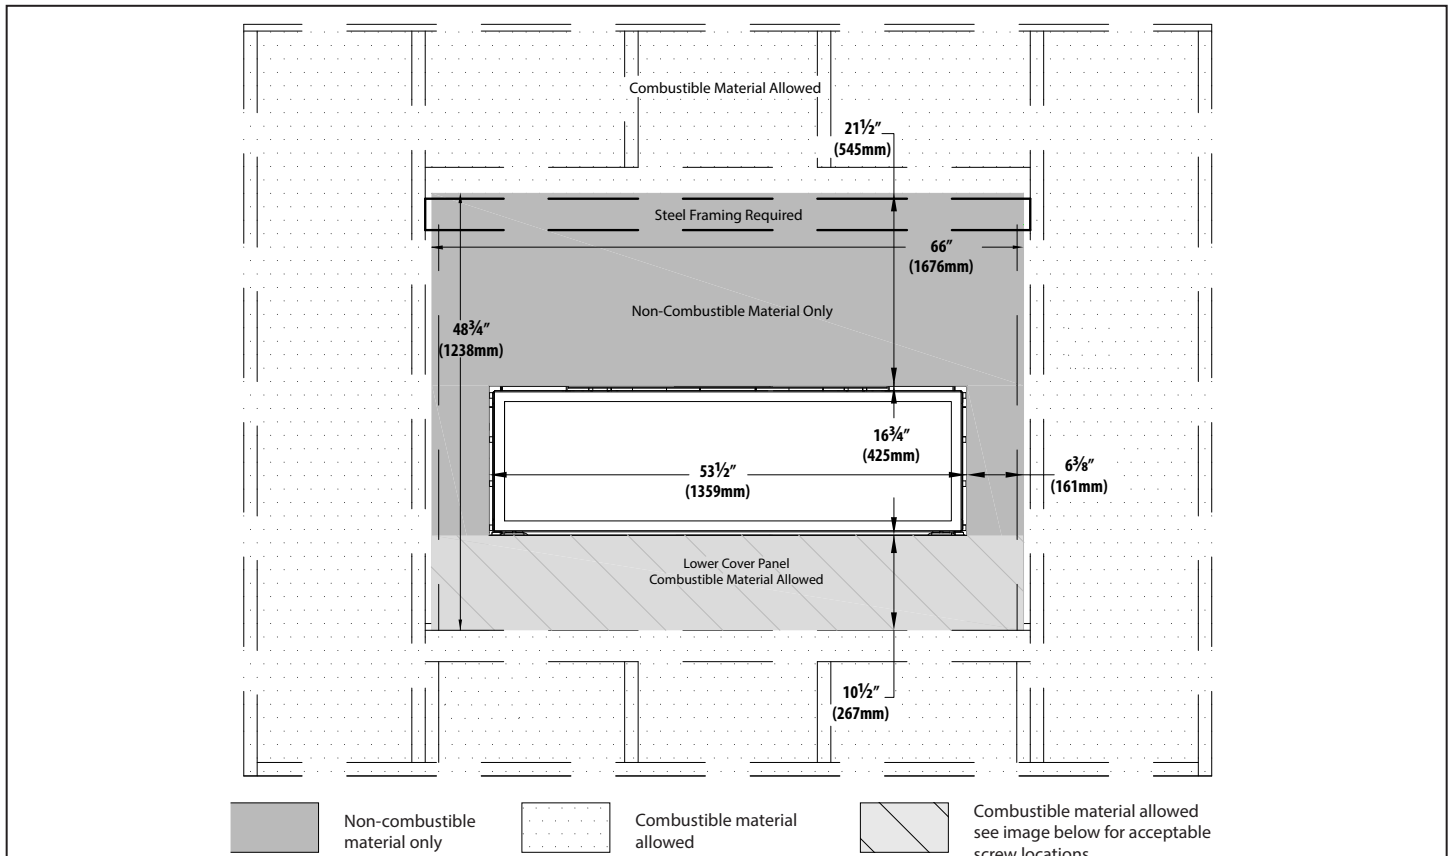
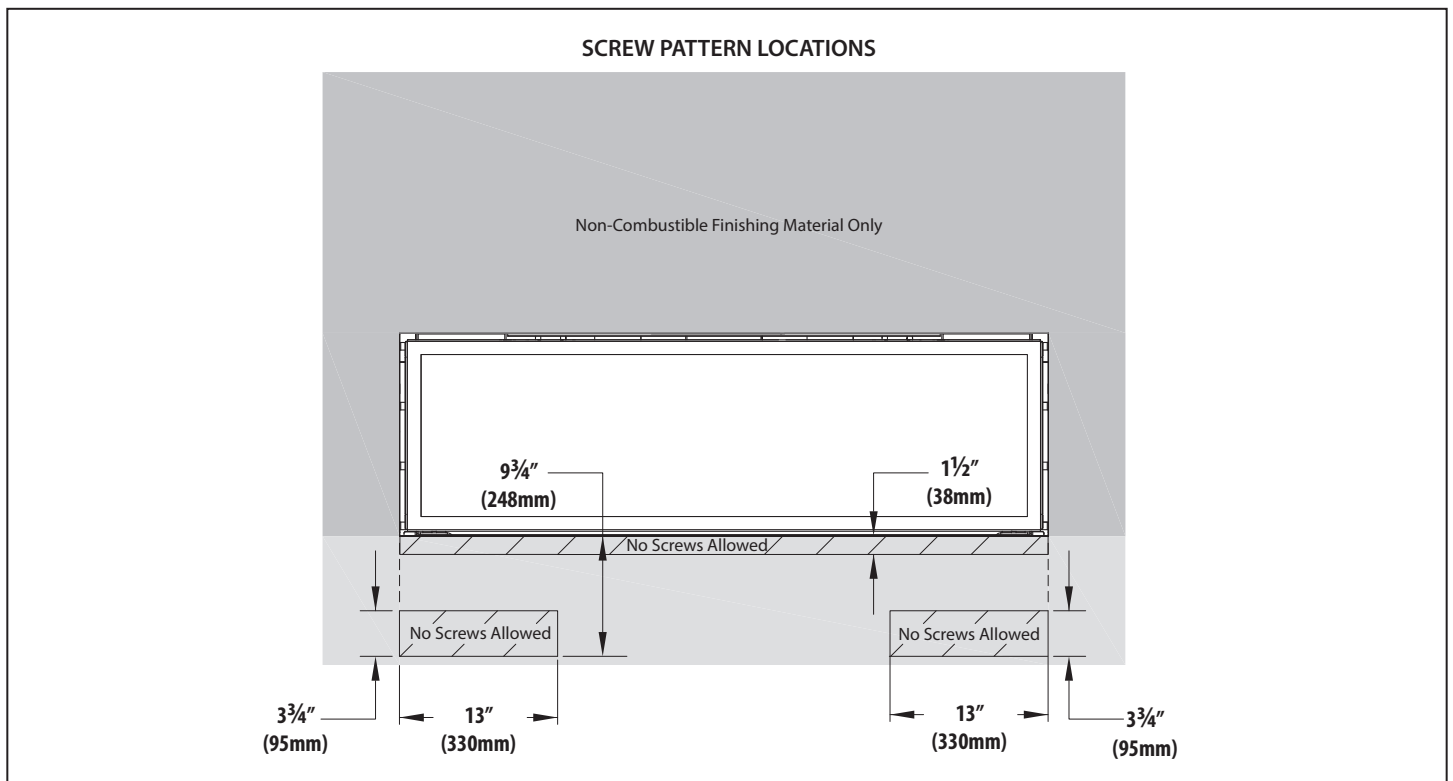

FIGURE 4.3 Minimum Non-Combustible Finishing Dimensions for all installations
FIGURE 4.4 Minimum Non-Combustible Finishing Dimensions Screw Locations for all installations
- Non-combustible material is required at the top and sides of the fireplace. This fireplace is designed to accommodate non-combustible facing material up to 3/4" (19mm) thick. See FIGURE 4.3 and FIGURE 4.4 on page 34 for facing and finishing material dimensions.
- It is acceptable to pre-drill holes and to use self-tapping screws prior to attach the non-combustible material to the top and sides of the fireplace face. Do not use excessively long screws. Screws can only penetrate the fireplace outer shell up to 1/2" (13mm) in the allowed areas. See FIGURE 4.3 and FIGURE 4.4 on page 34.
3. Do not use any screws above the framing when installing the bottom panel to avoid damaging any of the gas and electrical components located behind the panel. Refer to **FIGURE 4.4** on page 34 for maintaining the required areas.
- Non-combustible material is required at the top and sides of this fireplace. This fireplace is designed to accommodate non-combustible facing material up to 3/4" (19mm) thick. See FIGURE 4.3 and FIGURE 4.4 on page 34.
- It is acceptable to pre-drill holes and to use self-tapping screws prior to attaching the non-combustible material to the top and sides of the fireplace face, screws can only penetrate the fireplace outer shell up to 1/2" (13mm) in the allowed areas. See FIGURE 4.4 on page 34.
- This combustible material goes on any required non-combustible materials as shown in FIGURE 4.3 and FIGURE 4.4 on page 34.